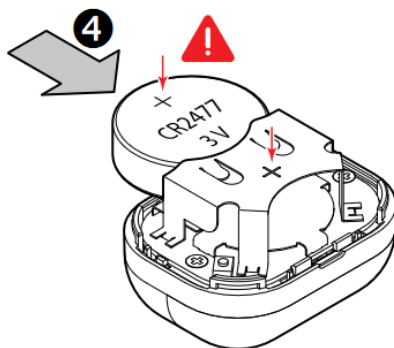

Fig.3
3. Slide in a new battery, as shown in Fig. 3.